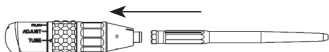

Figure 5
2. Hold handpiece firmly in one hand and with other hand push and rotate release sleeve of attachment until arrow is aligned with unlock symbol (Figure 5).